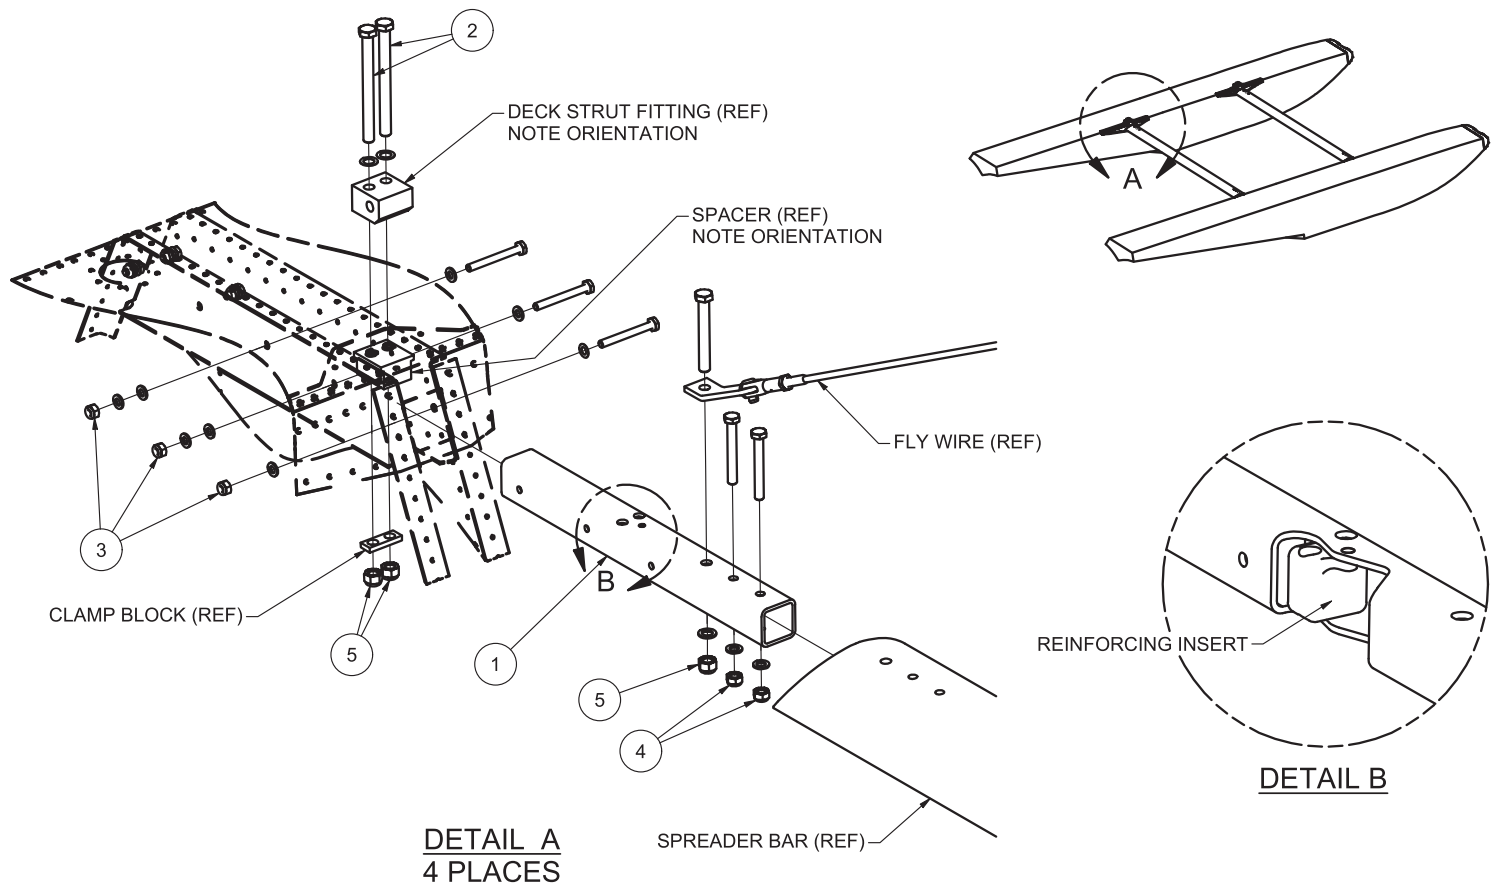

Figure 1
- A reinforcing insert has been added to the spreader bar mount tubes. See Figure 1 for a visual reference.
- Note:** Refer to Figure 1 for steps 3-8.
6. Check orientation of internal spacers: the wide/flanged surface must face up, against the underside of the top deck. Typically, the spacer can be briefly held in place by using a bolt (item 2) to pinch it fwd or aft against internal structure. This method can aid this check, as well as help in quick placement of replacement tubes (following step).
7. Insert and fasten replacement spreader bar mounting tube with pre-assembled insert (item 1).